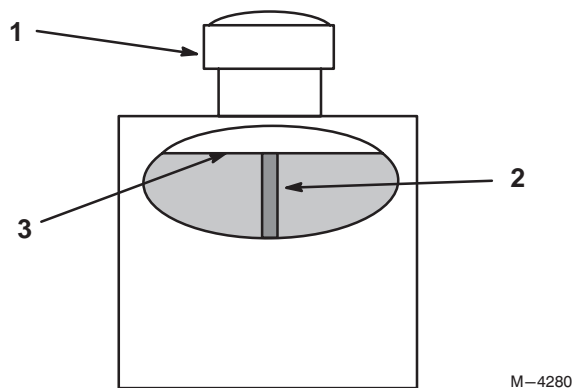

Figure 47
2. Clean area around filler neck of hydraulic tank (Fig. 47).
3. Remove cap from filler neck. Look inside to check if there is fluid in the reservoir. (Fig. 47).
Note: Fluid level should be to the top of the baffle when fluid is warm (Fig. 47).